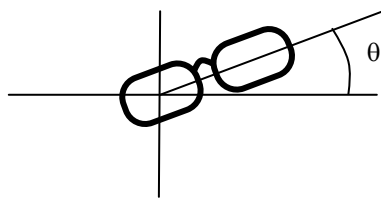

Figure 7. Positioning eyeglass
- (ii) Left eyeglass are placed in front of LMS and luminance is measured, rotating right eyeglass such as FIG 7. The notation for luminance measurement is "Lum(LE, LB-RW, 1)".